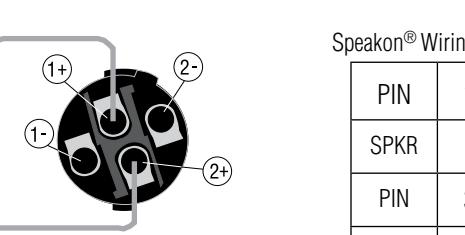

Figure 2.12
2) Wire the speaker only to the Speakon® connector as shown in Table 2 and Figure 2.12.